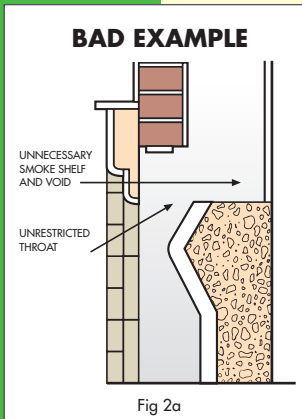
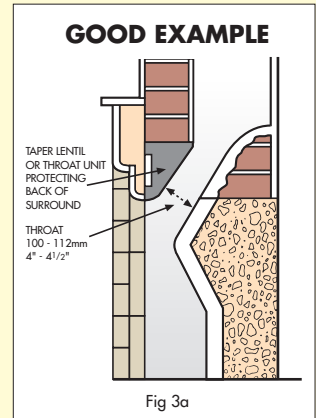

Fig 2a
Fig 3a
**REMEDY** It is necessary to allow more air into the room, but in a way that avoids unpleasant draughts, this is often difficult. The first step should be to see if it is possible to reduce the volume of air flowing up the flue so the 'demand' for air is less. An inspection of the throat over the fire may reveal a large throat without any attempt at streamlining and an even larger void beyond and at the sides - see Fig.2a and 2b.
The void should be filled in and the throat reduced so that there is a smooth, streamlined entry into the flue as shown in Fig.3a and 3b. If the throat opening can be made adjustable for size it will be better still, as then the minimum amount of opening can be found to suit the 'pull' of the flue when the chimney is warm, and yet allow the full opening for relighting the fire when the chimney is cold.
The velocity of the gases at this point should be high, so that the action is similar to that of a vacuum cleaner nozzle. The smooth, swift movement of the smoke and gases may be impeded by the irregular shape of the throat and the large void above, at the sides or behind it. Fig.2a and 2b show a bad throat construction and voids that are all too common. Fig.3a and 3b show the proper reconstruction of this throat and streamlining of the 'gather' up to the point where the flue itself begins.
**TEST** *Very often the turbulence and eddying of smoke can be clearly seen. A simple test makes use of a piece of cardboard or thin sheet metal cut and bent so that it can easily be wedged across the front of the throat in a similar position and shape to the streamlined lintel shown in Fig.3a).*